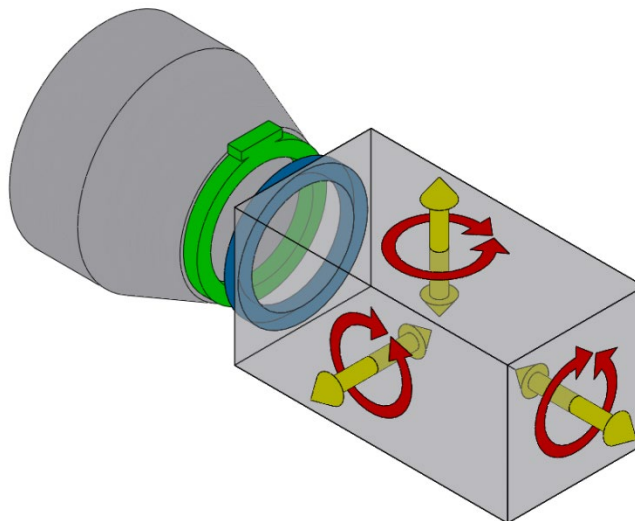

Figure 13-2: Be cognizant of translational and rotational alignment and compliance.
13.1.6	Move the SV close to the LV until the tips of the Separation Springs are close to the bottom edge of the Upper Ring (<0.5 inch) but not yet overlapping. Align the Upper Ring to the Lower Ring in translation and rotation. See step 8.1.11 for alignment features. Ensure the Separation Springs will not be inhibited from engaging their corresponding holes in the Upper Ring flange. It is essential to align all 6 SV DOF prior to actually compressing the Lightband. See Figure 13-2.